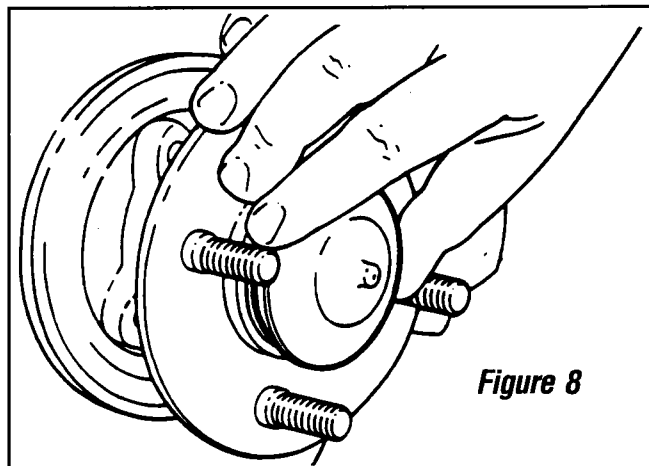

Figure 8
5. When working on left side, remove speedometer drive cap from centre of hub. *Fig. 8*